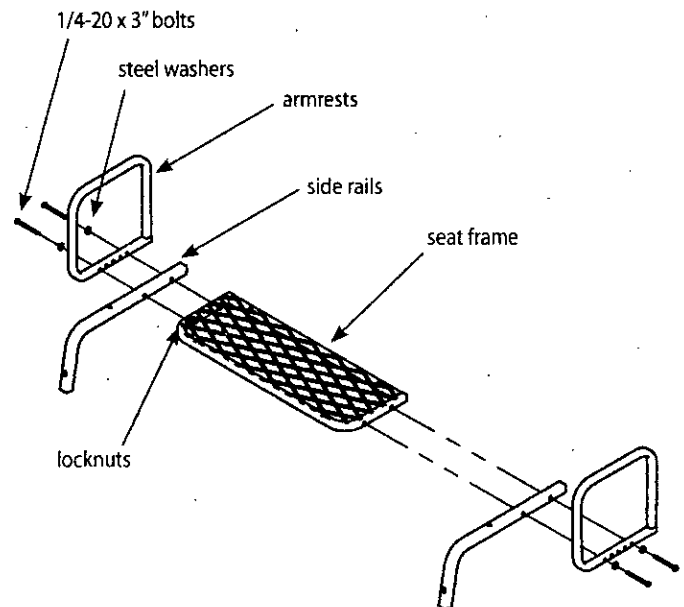

Figure 2
3. Attach the seat frame (112ML63) in between the side rails (112ML60), and the armrests (LFX5) to outside of side rails using (4) provided 1/4-20 x 3" bolts, locknuts and steel washers. **SEE FIGURE 2.**